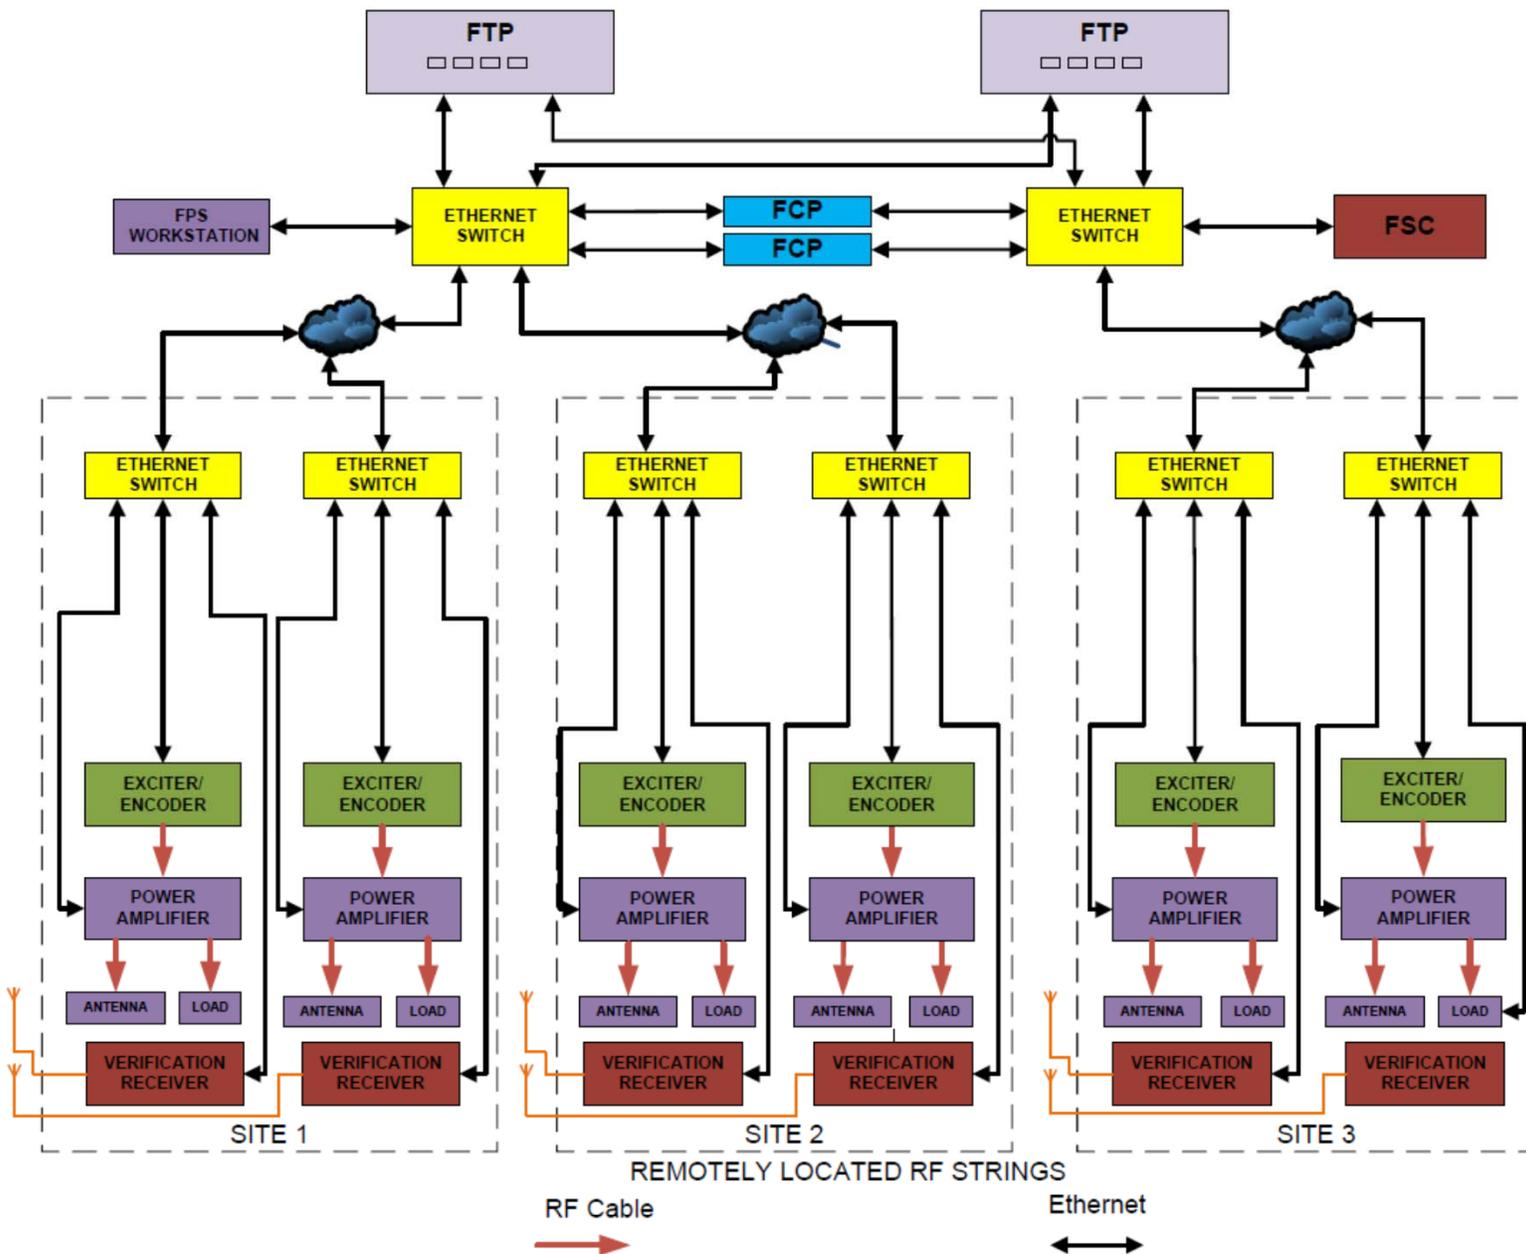

Figure 1 – 3 Transmitter Site FTS Block Diagram
WV's system architecture allows for up to sixteen (16) FTPs, sixteen (16) FCPs, twenty (20) FPS' or FSCs, and sixteen (16) transmitter strings. A block diagram of an FTS having three (3) transmitter sites is illustrated in Figure 1.